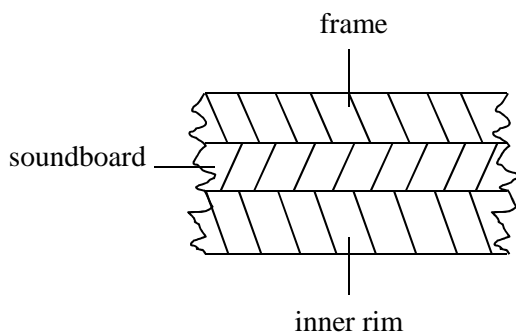

Figure 2: Cross-section of joining parts
- d. The frame is made from cast iron. Figure 2 shows a cross-section of the three parts which need to be joined together. Sketch and name a method by which to join the frame to the soundboard and bottom of the inner rim which are both made from wood.